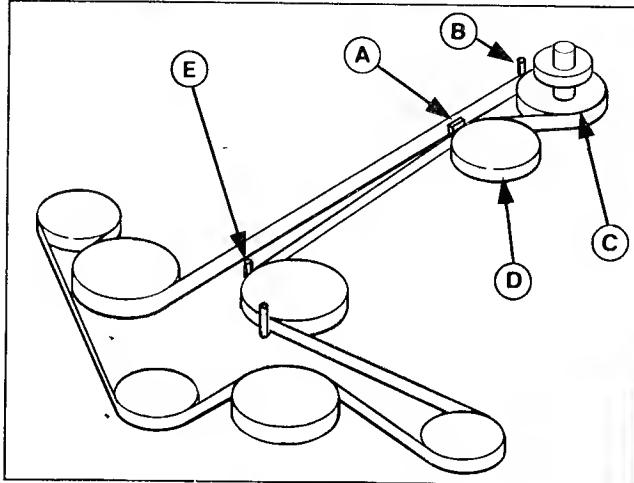

Figure 11A. 42" Mower Belt Pattern
3. Remove pin and washer to disconnect the PTO lever (C). Remove the clip and pin that secures the lift clevis (D).
4. To slip belt off the engine pulley (C, figure 11A or 11B), loosen the idler pulley belt guide (A).
2. Slip belt onto the engine pulley. Refer to figure 11A or 11B for pattern. Be sure there are no twists in belt.
6. Position the belt guide (A, figure 11A or 11B), and belt stops (B and E) 1/16 to 1/8 inch from belt with belt engaged. Tighten securely.